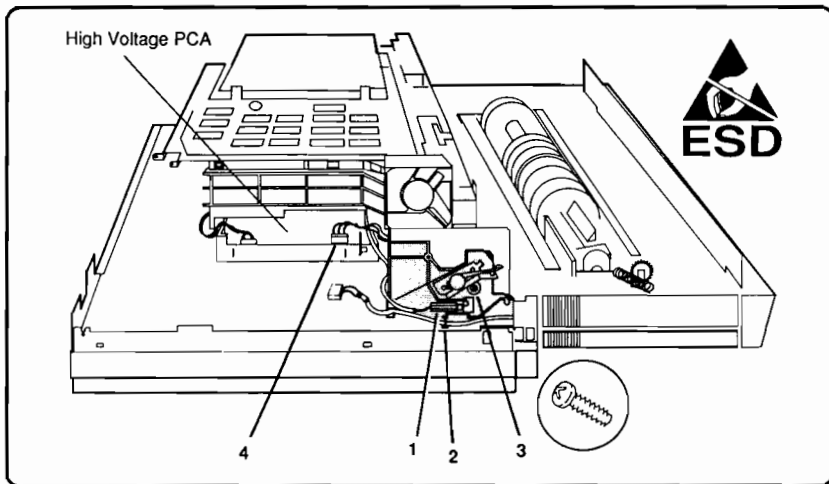

Figure 6-40. High Voltage Contact Assembly Removal
7. Using a flat screwdriver, unplug the High Voltage Cable Connector (Figure 6-40, callout 1). **Do NOT pull on the cable.**
8. Unplug connector J602 on the HV PCA (Figure 6-40, callout 4).
10. Unclip the cable retainer shown (Figure 6-40, callout 2).
11. Remove the screw (1) securing the High Voltage Contact Assembly (Figure 6-40, callout 3) and carefully pry the assembly off the side of the printer.